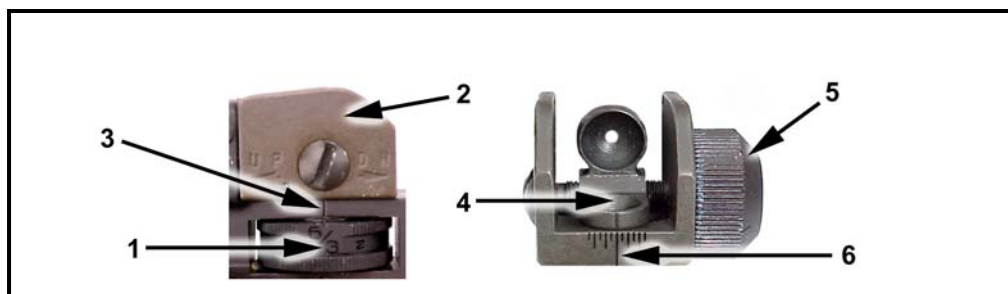

Figure 2-13. M4/M4A1 and M4 MWS battlesight zero.
(2) ***Battlesight Zero the M4/M4A1 and M4 MWS.*** If necessary, the soldier should battlesight zero the weapon as follows (Figure 2-13):